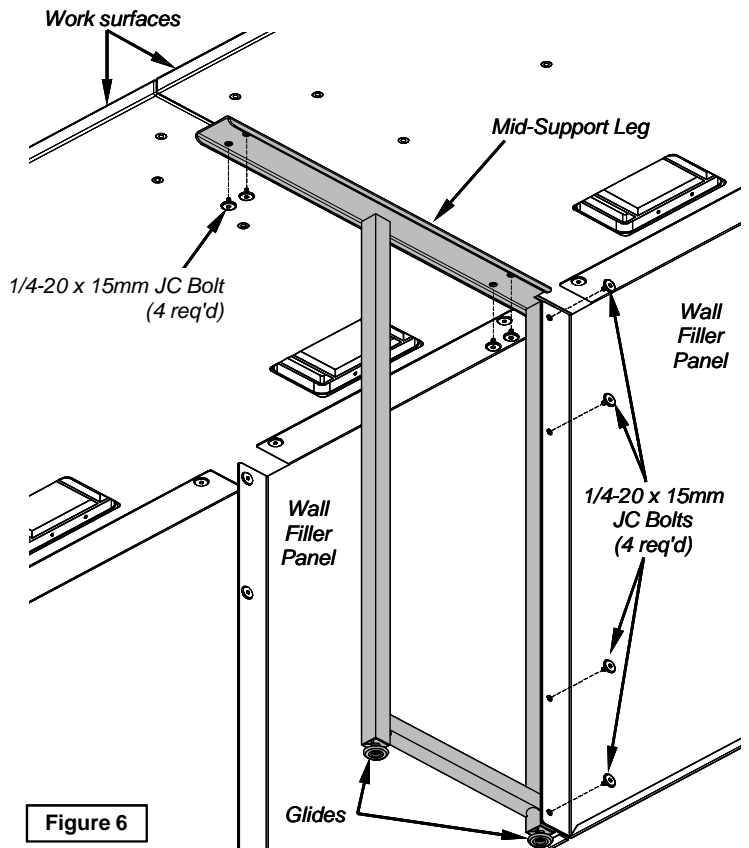

Figure 6
- Install (2) 1/4-20 x 90mm JC bolts and (2) 1/4-20 locknuts.
- Install the (2) glides onto the bottom of the leg. The glides can be adjusted later to level the console.
- Align the mid-support leg and wall filler panel mounting holes as shown in **Figure 6**.
- Attach the mid-support leg to the wall filler panels with (4) 1/4-20 x 15mm JC bolts.
- Attach to work surfaces with (4) 1/4-20 x 15mm JC bolts